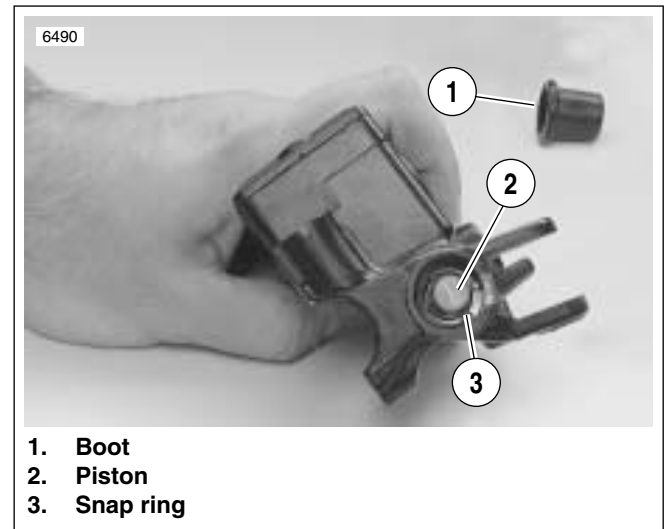

Figure 2-30. Snap Ring
4. See Figure 2-30. Compress piston (2) and remove rubber boot (1).
5. Depress piston assembly and remove internal snap ring (3). Discard snap ring.